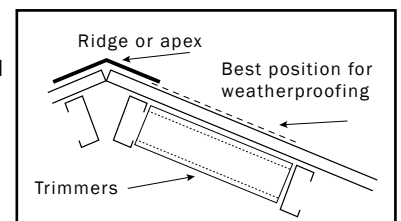
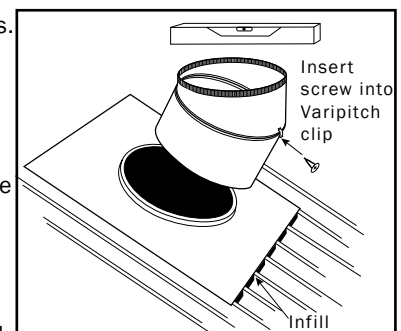

Fig 2
Fig 3
Select the appropriate position on the roof as referred to in (Fig 2), ensuring the ventilator will not be sheltered from the wind. Place the base flashing under the ridge cap.
**Note:** If the purlin spacing is greater than 1000mm, trimmers may be required. Install the trimmers between the purlins on either side of the opening (Fig 2). Do not cover the opening (Fig 3).
When a Varipitch throat is being used, sit the Varipitch on the flashing and rotate the top and bottom halves until the top of the Varipitch is level (horizontal); it is recommended that a level be used (Fig 3). Fix the Varipitch to the flashing (for number of fasteners see Table 1).